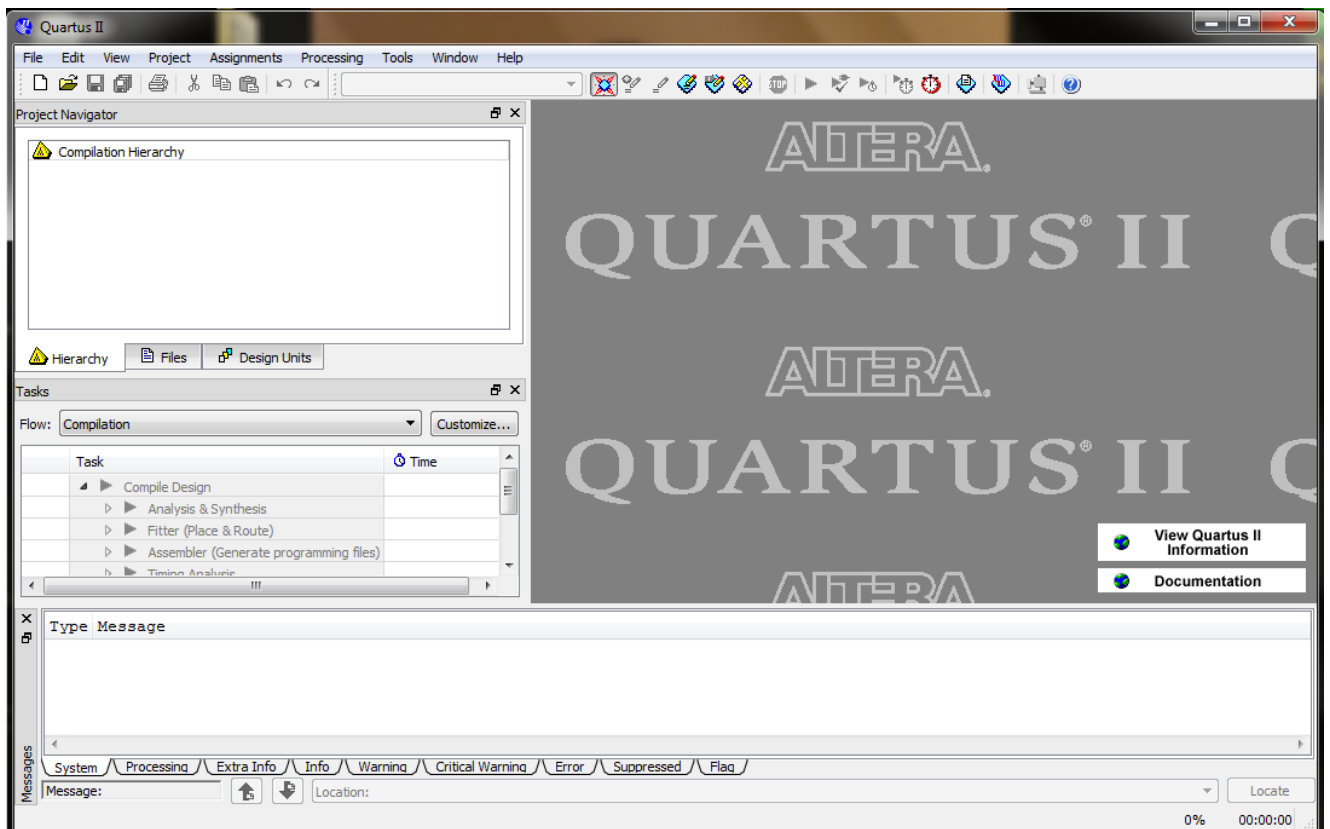

Figure 2. The main Quartus II display
- Start the Quartus II software. You should see a display similar to the one in the Figure 2.